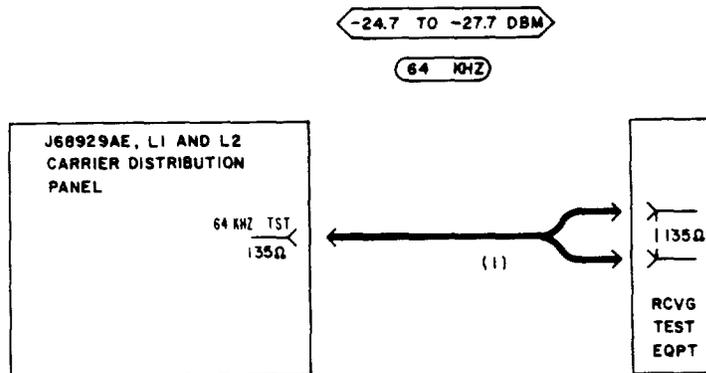

Fig. 4—Patching Diagram—Sync-Frequency Test—Regular Carrier Supply
8	Connect the RTE to the 64KHZ TST 135Ω jack [patch (1), Fig. 4].
11	Remove patch (1), Fig. 4.